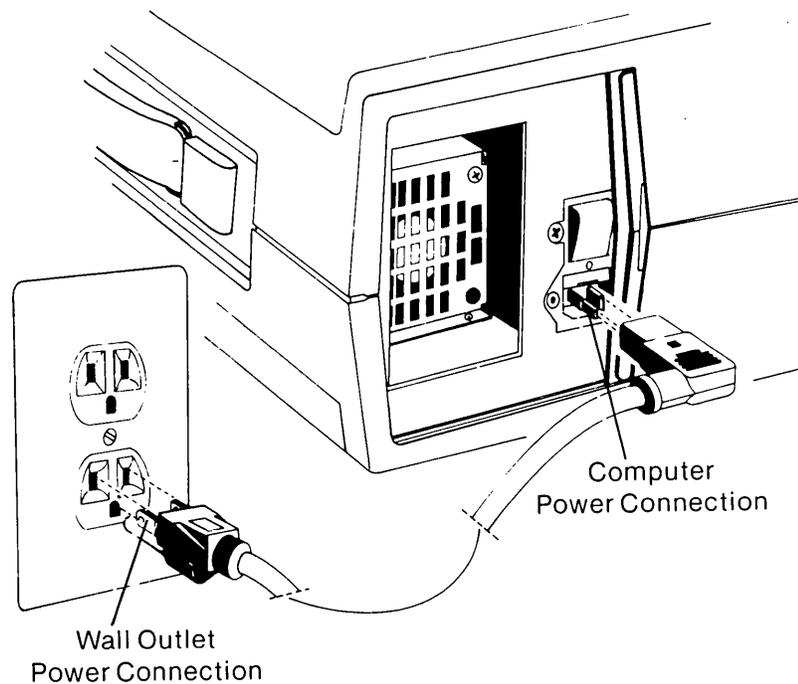

Figure 11-9. Disconnecting the Power Cord From the Computer.
Before you remove the case from the COMPAQ Computer, set the ON/OFF switch to the OFF position and disconnect the power cord from the computer (see Figure 11-9).
3. Unplug the computer and any options from their power sources (previously shown in Figure 11-9).